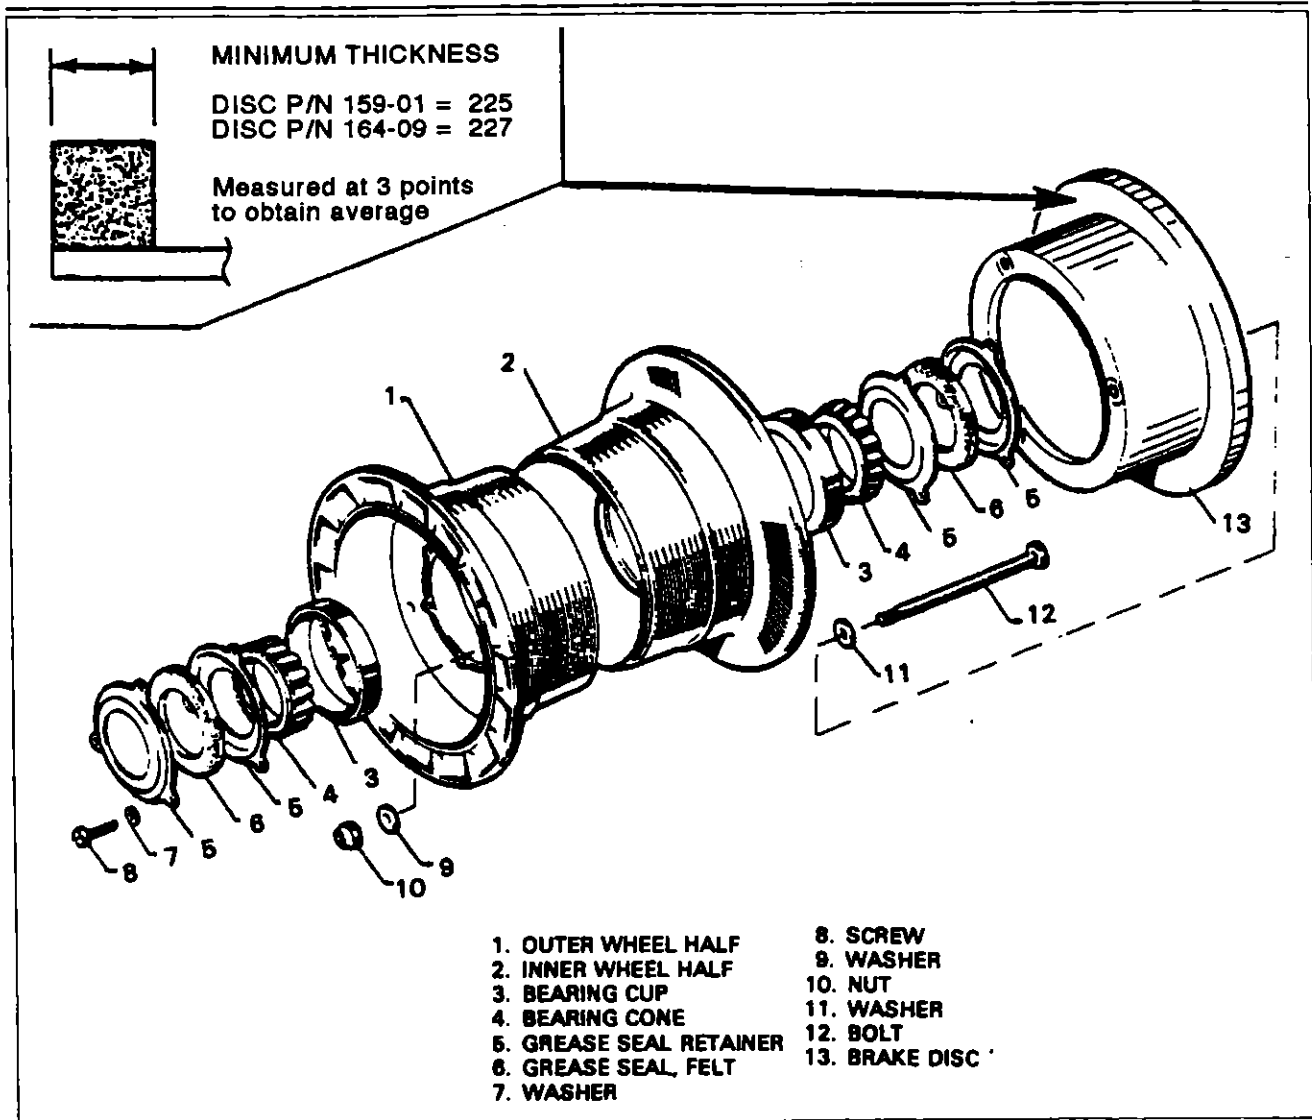
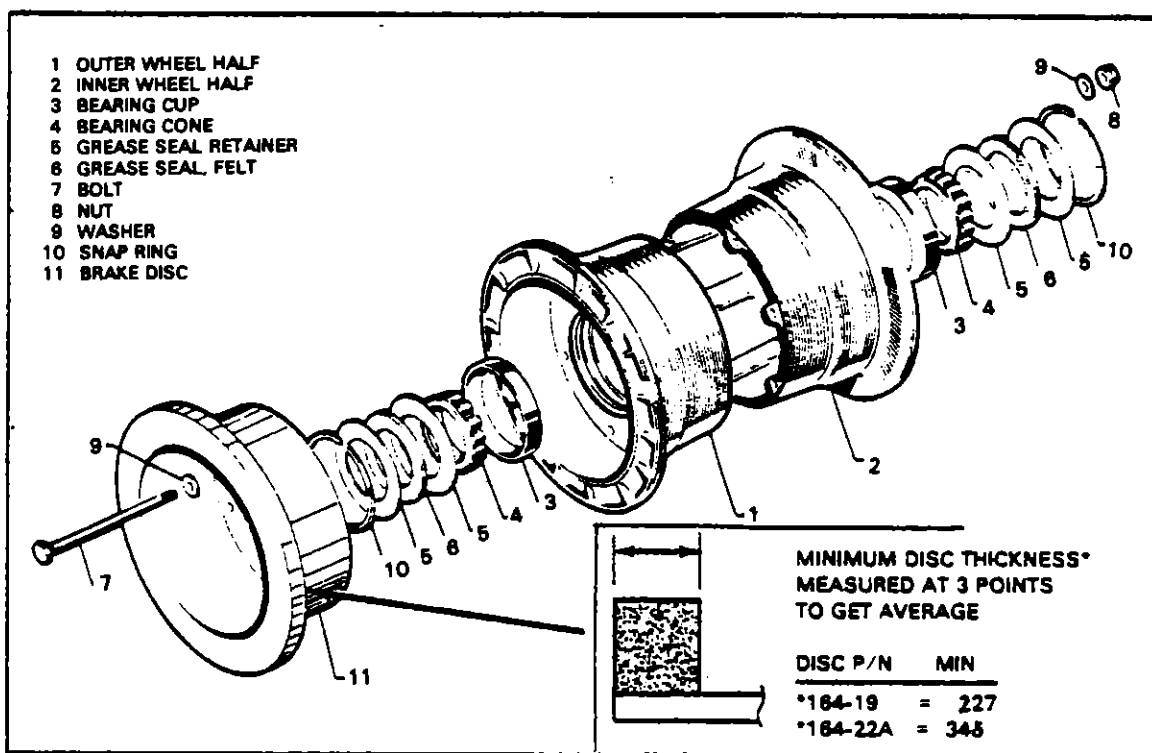

Figure 6-25. Main Wheel Assembly (Cleveland) PA-24-180 and PA-24-250
FIGURE 6-26. MAIN WHEEL ASSEMBLY (CLEVELAND) PA-24-260 and PA-24-400
- c. On PA-24-180 and PA-24-250 airplanes, remove and disassemble the wheel as follows (refer to Figure 6-25):
- (a) Deflate the tire and remove the grease seal retainer (5) by removing the attaching screws (8).
- (b) Remove the bearing cones (4).
- (c) Remove the bolts (12) securing the wheel halves together.
- (d) The bearing cups (3) should be removed only for replacement and may be removed by tapping evenly from the inside.
- d. On PA-24-260 and PA-24-400 airplanes (Cleveland) PA-24-200 and PA-24-400, remove and disassemble the wheel as follows (refer to Figure 6-26):
3. The wheel may be disassembled by deflating the tire and removing the snap rings (10) securing the grease seals (6) and seal retainers (5).
4. Remove the bearing cones (4) and remove the bolts (7) securing the wheel halves.
5. The bearing cups (3) should be removed only for replacement and may be removed by tapping evenly from the inside of the wheel.
- e. On PA-24-180 and PA-24-250 airplanes, install the wheel as follows (Refer to Figure 6-25):
- f. On PA-24-260 and PA-24-400 airplanes, install the wheel as follows (Refer to Figure 6-26):